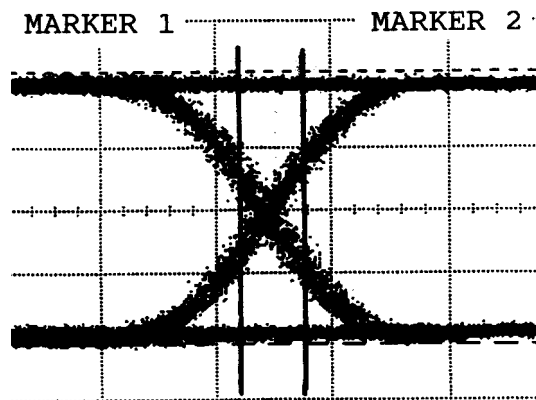

Figure 11-2
- Select VOLTS Histogram and move the WINDOW MARKERS 1 and 2 as shown in Figure 11-2.